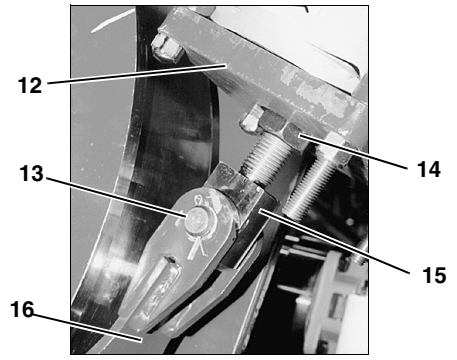

FIGURE 5-12
See Figure 5-12 for following procedure.
3. With drum brakes applied, check each brake for proper adjustment at drum brake adjustment indicator (Figure 5-12, View B). Check adjustment when linings are cold for liftcrane work or warm from operation for duty-cycle work.
- b. Loosen lock nut on spring guide eyebolt (Figure 5-12, View A). Adjust spring guide as needed by tightening or loosening adjusting nut on eyebolt. Tighten lock nut.
- c. Loosen nuts on bolts at roller guide bracket and lock nut on set screw (Figure 5-12, View D). Adjust roller
Install guard over drum flanges (Figure 5-12).